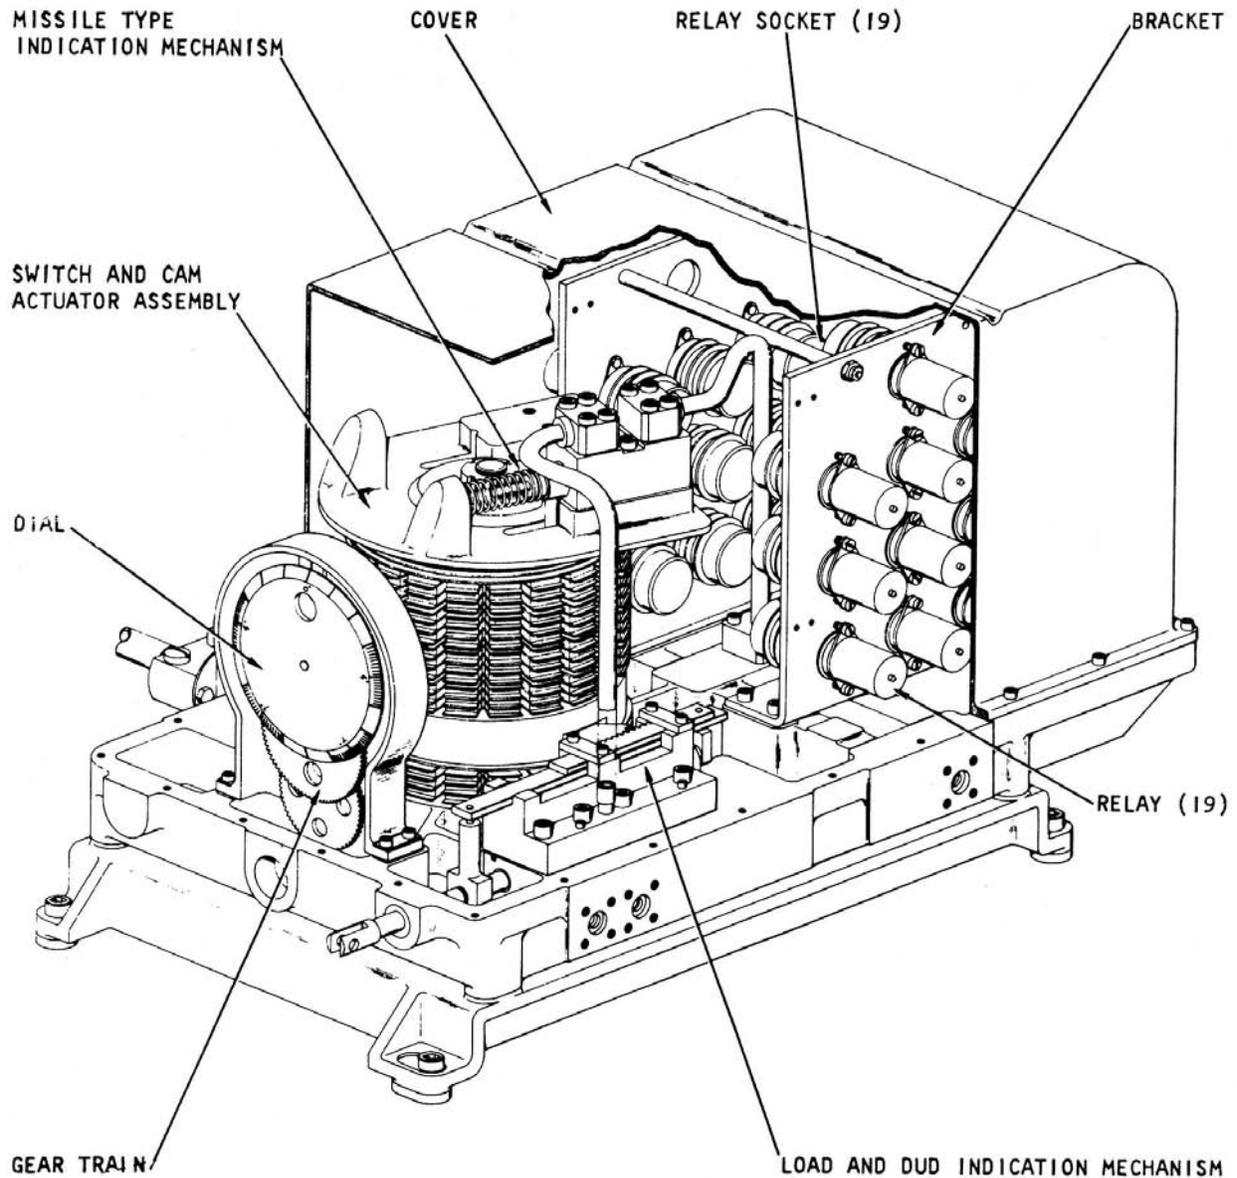

Figure 5-10.—Load status recorder.
LOAD STATUS RECORDER. - We mention the lead status recorder here as an example of a complex electromechanical assembly (fig. 5-10). One is located on each ready service ring, mounted on the outboard side of the truss. Its two basic sections are a relay board assembly and a switch and cam actuator assembly. It monitors the missile type and condition at all 20 stations in the ready service ring and sends this information to the control panels (EP2, and EP4 (5) in the form of interlock switch and visual